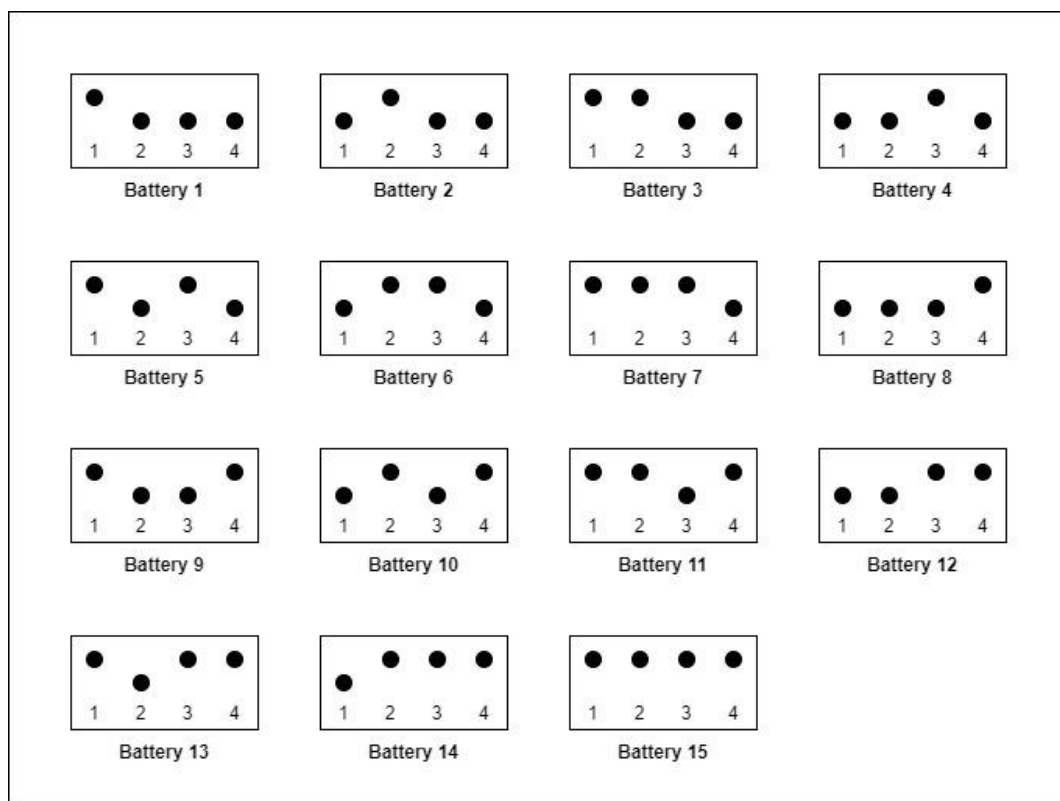

Figure 2: Dipswitch Diagram Multi-Battery Setup
Step 2: Secondly the dipswitches need to be set for the batteries. These dipswitches can be found on Figure 1 at (2). This is done by pressing the dipswitches either up or down in order to count in binary, please see figure 2 below.